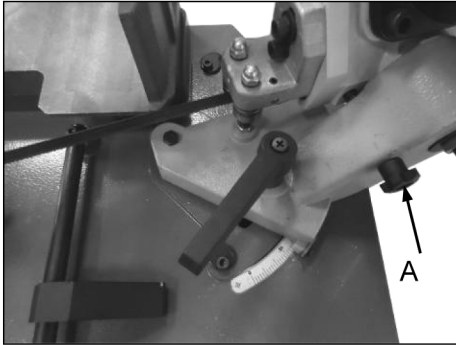

Fig. 1
Release the lock pin (A) in Fig.1 to release the saw. After service, must relock the saw properly for your safety and carry. Failure to comply with the warning could result in personal injury and damage to the machine.